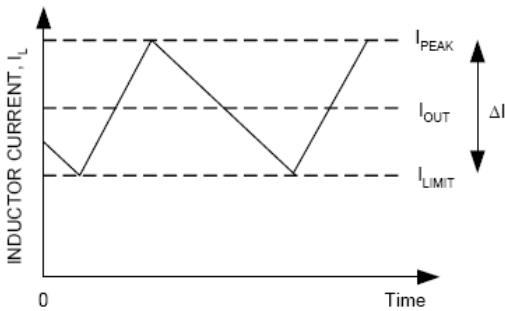

Figure 2. Current-Limit Algorithm
The current-limit circuit employs a "valley" current-sensing algorithm (See Figure 2). The TD9000 uses the low-side MOSFET's RDS(ON) of the synchronous rectifier as a current-sensing element. If the magnitude of the current-sense signal at PHASE pin is above the currentlimit threshold, the PWM is not allowed to initiate a new cycle. The actual peak current is greater than the currentlimit threshold by an amount equals to the inductor ripple current. Therefore, the exact current-limit characteristic and maximum load capability are the functions of the sense resistance, inductor value, and input voltage.